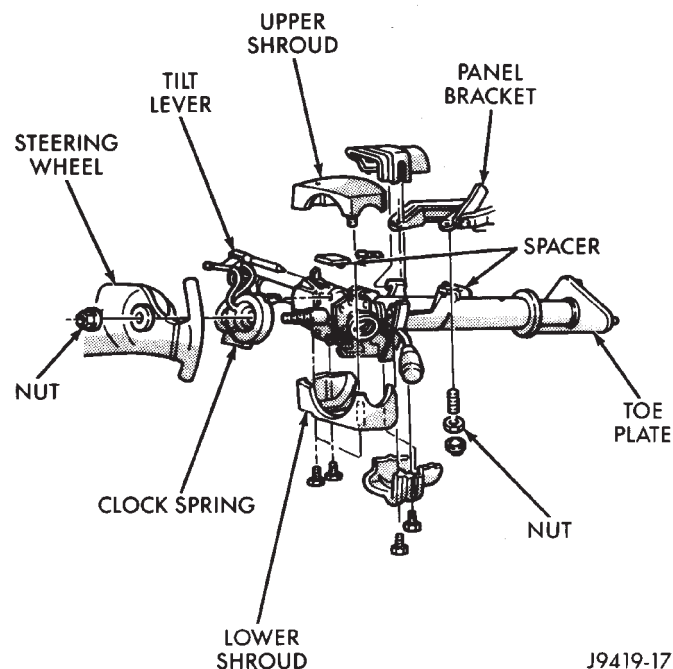

Fig. 28 Steering Column Shrouds Remove/Install - Typical
(8) Remove the two screws that secure the inside hood latch release handle to the instrument panel lower reinforcement and lower the release handle to the floor.
(9) Unplug the driver side airbag module wire harness connector at the instrument panel lower reinforcement.
(10) If the vehicle is so equipped, remove the tilt steering column lever.
(11) Remove both the upper and lower shrouds from the steering column (Fig. 28).